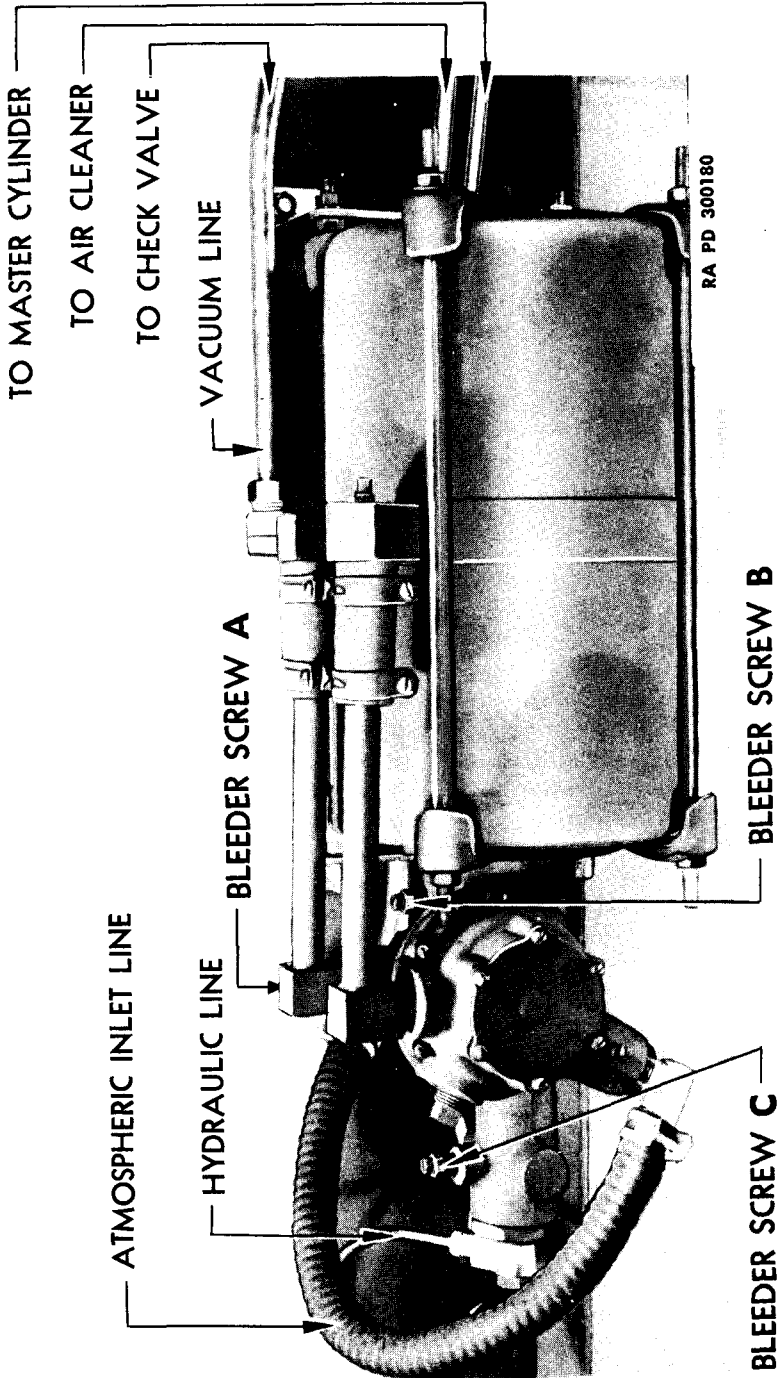

Figure 90—Hydrovac Assembly
(3) Note air pressure in pressure tank, which must be from 10 to 20 pounds. Also see that fluid level is above shut-off valve on tank. Open shut-off cock at pressure tank. Open bleeder valve screw $\frac{3}{4}$ turn counterclockwise and watch flow at end of bleeder hose. Close bleeder valve tightly as soon as air bubbles stop and fluid comes out in solid stream. Remove bleeder hose and install cap screw and lock washer. Repeat operation at all four wheels, cylinders, and at the three hydrovac bleeder screws. Hydrovac bleeder screw must be bled in proper order ("A", "B", and "C") (fig. 90). Remove bleeder hose attached to master cylinder filler cap. Install cap and floor boards.